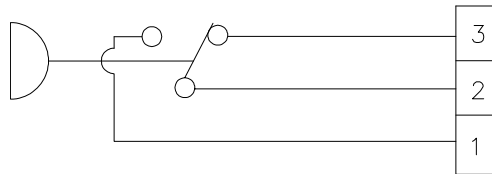

Figure 101. Pressure Gauge Electrical-Schematic
- (1) Connect the multimeter leads to pins 1 and 2 of the pressure gauge (see Figure 101). The multimeter must show continuity between pins 1 and 2.